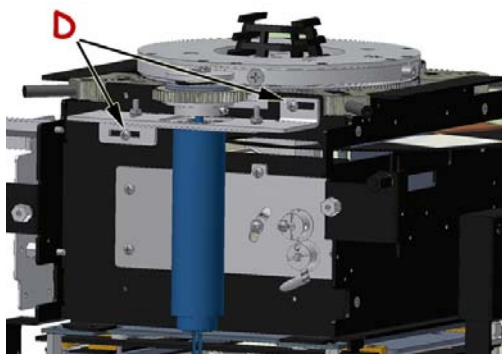

Fig. 2
- Tighten the two screws **B**, see **Fig. 2**.